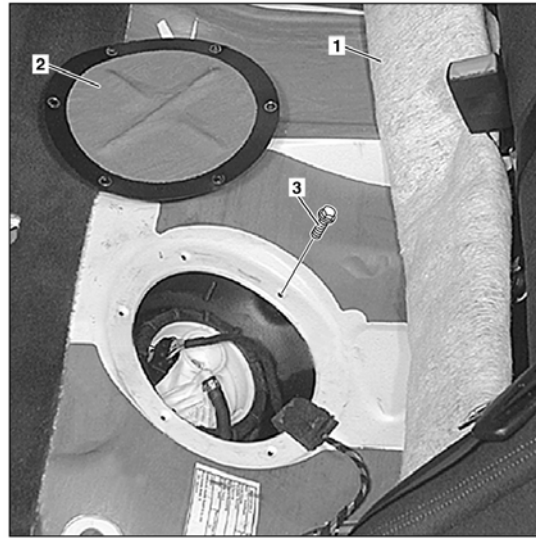
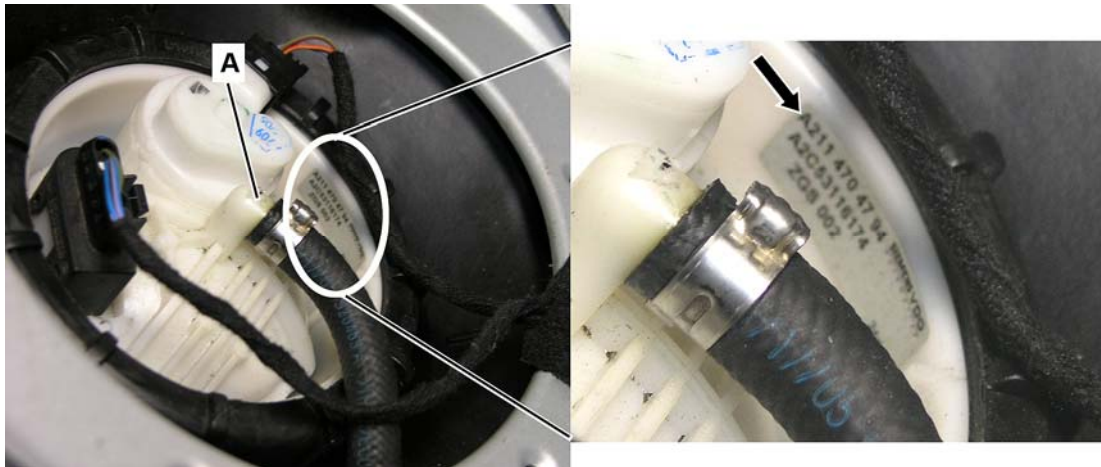
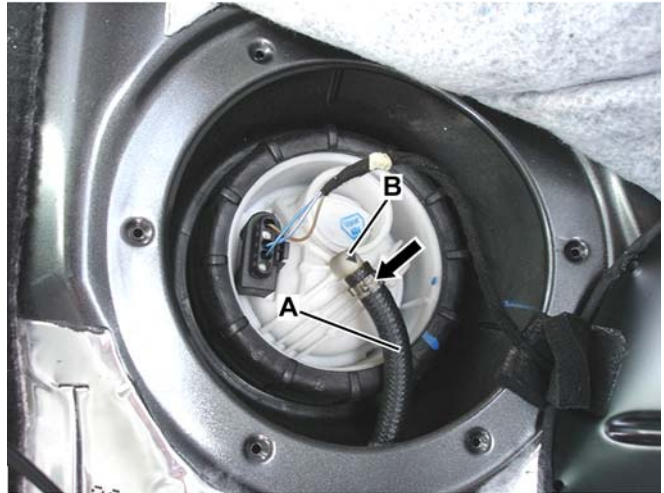

Figure 1
Figure 2
Figure 3
- Roll-up sound insulation mat (1, Figure 1) to uncover access cover (2).
- Remove 6 bolts (3) securing left access cover (2) to body then remove access cover (2).
- If part number A 211 470 49 94 or A 211 470 51 94 **is** indicated on fuel filter module assembly (arrow, Figure 2), proceed to subject **D**.
- If fuel is not leaking from fitting (A, Figure 2) proceed to Subject **B**.
- If fuel is leaking from fitting (A) proceed to step Subject **C**
1. Remove fuel hose (A, Figure 3) from fitting (B):
- Remove hose clamp (arrow) securing fuel hose (A) to fitting (B).
- **Wrap a shop rag around fuel hose (A, Figure 3)** then remove fuel hose (A) by first turning hose (to loosen it from fitting) then pull hose off from fitting (B).